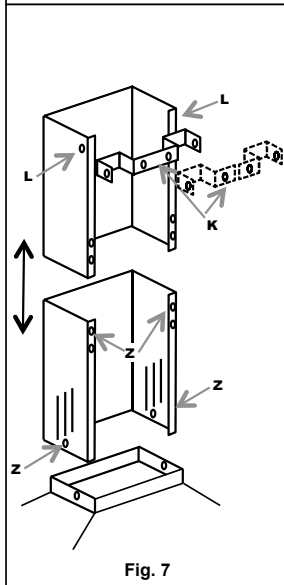

Fig. 7
• MONTAGEM DAS CHAMINÉS (fig. 7):